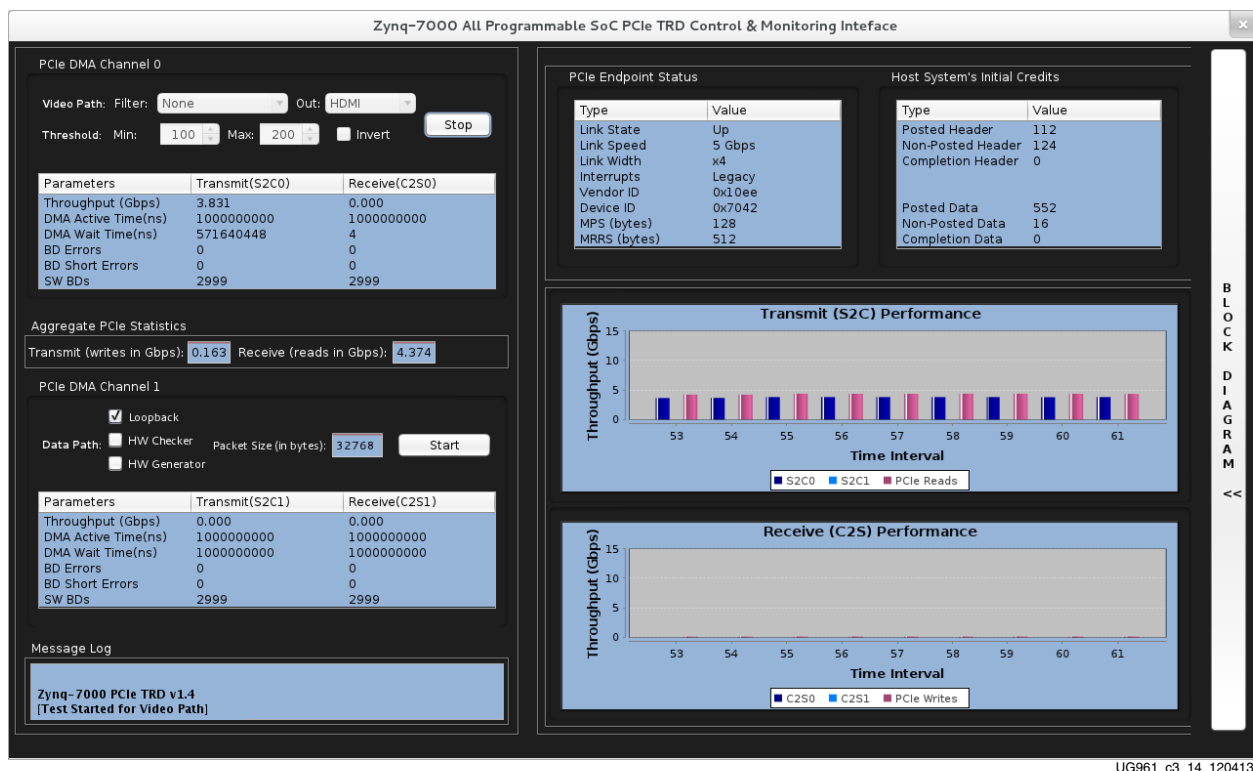

Figure 3-14: Performance Mode GUI
- After installing the performance mode driver, the control and monitor user interface pops up as shown in Figure 3-14. The control pane shows control parameters such as Sobel Filter and Video Out selection modes.